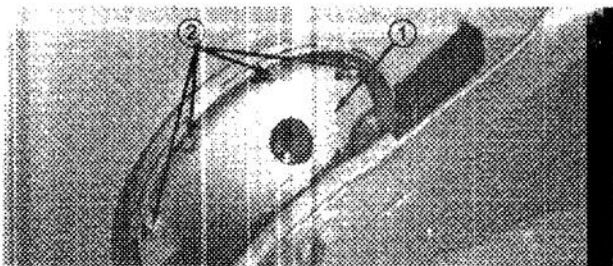

Figure 33
5. Remove eight flange bolts and flange nuts holding spindle housing assembly against cutting unit (Fig. 33). Slide spindle housing assembly out bottom of cutting unit. (Watch for blade alignment shims between spindle housing and cutting unit).
11. Slide pulley end of spindle assembly through hole in cutting unit. Mount spindle assembly in place with eight flange bolts and flange nuts (Fig. 33). Check mismatch of blades; refer to Checking and Correcting Mismatch of Blades, page 17.